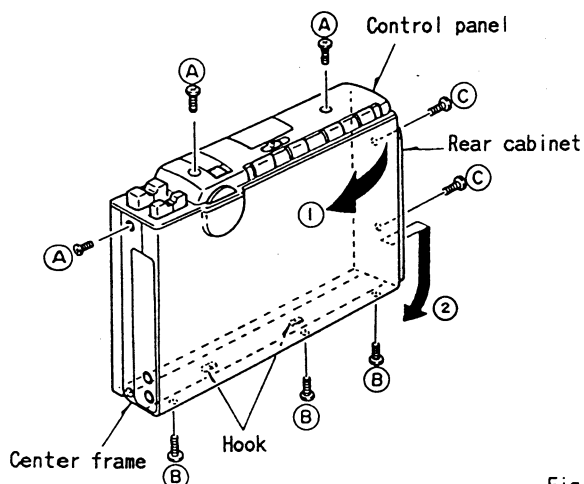

Fig. 1
- 1) Remove 3 screws (A) and take out the control panel.
- 2) Remove 3 screws (B) and take out the rear cabinet in the direction of arrow ①.
- 3) Remove 2 screws (C) and release ② hooks, then take out the center frame in the direction of arrow ②. (See Fig. 1)